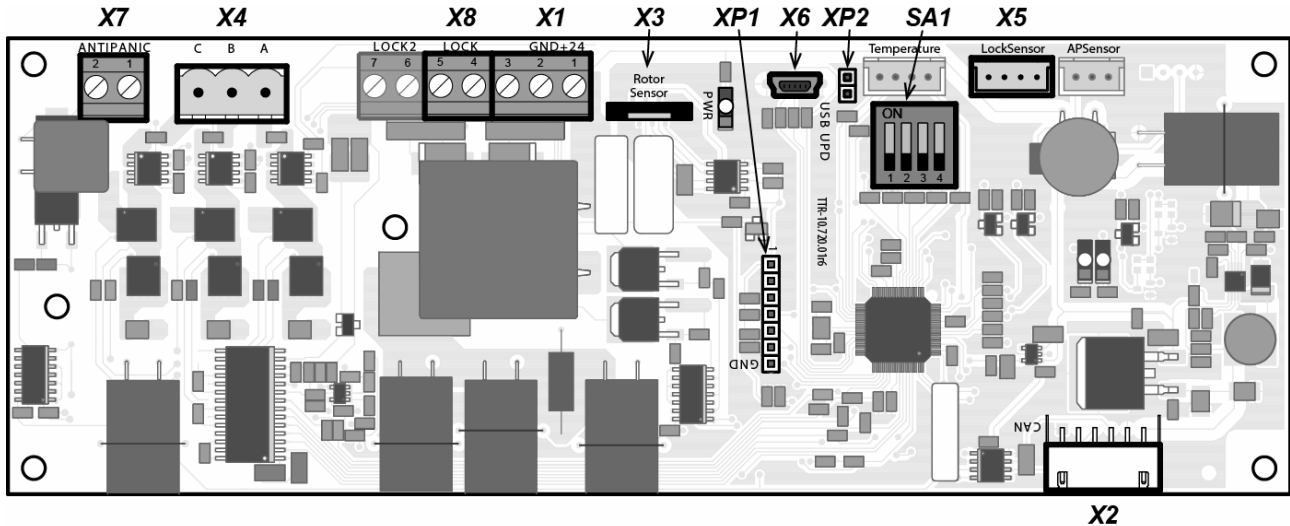

Figure 6. Control board
All nodes of the turnstile mechanism are connected to the control board with internal wiring. A turnstile power source is connected to it with an external cable as well. Connection is made in accordance with the connection layout (Fig. 17). The appearance of the control board (9) (Fig. 6).